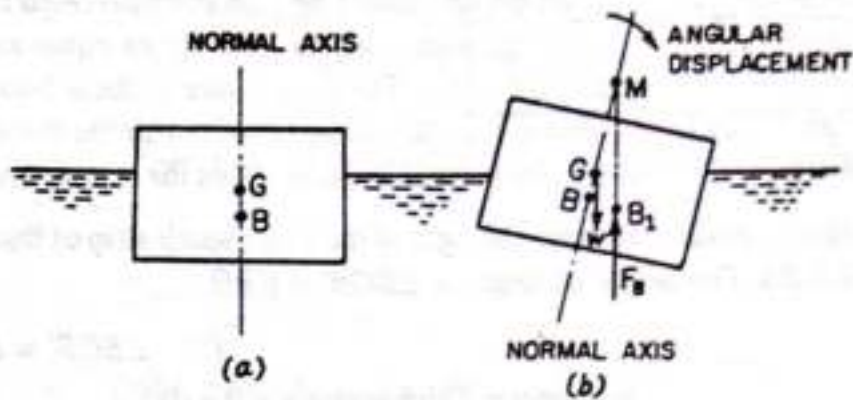

Fig. 4.5. Meta-centre.
Consider a body floating in a liquid as shown in Fig. 4.5 (a). Let the body is in equilibrium and  $G$  is the centre of gravity and  $B$  the centre of buoyancy. For equilibrium, both the points lie on the normal axis, which is vertical.
Let the body is given a small angular displacement in the clockwise direction as shown in Fig. 4.5 (b). The centre of buoyancy, which is the centre of gravity of the displaced liquid or centre of gravity of the portion
of the body sub-merged in liquid, will now be shifted towards right from the normal axis. Let it is at  $B_1$  as shown in Fig. 4.5 (b). The line of action of the force of buoyancy in this new position, will intersect the normal axis of the body at some point say  $M$ . This point  $M$  is called **Meta-centre**.
**Couple Due to Wedges.** Consider towards the right of the axis a small strip of thickness  $dx$  at a distance  $x$  from  $O$  as shown in Fig. 4.5 (b). The height of strip  $x \times \angle BOB' = x \times \theta$ .
But from Fig. 4.5 (c) it is clear that  $2 \int x^2 dA$  is the second moment of area of the plan of the body at water surface about the axis  $y-y$ . Therefore